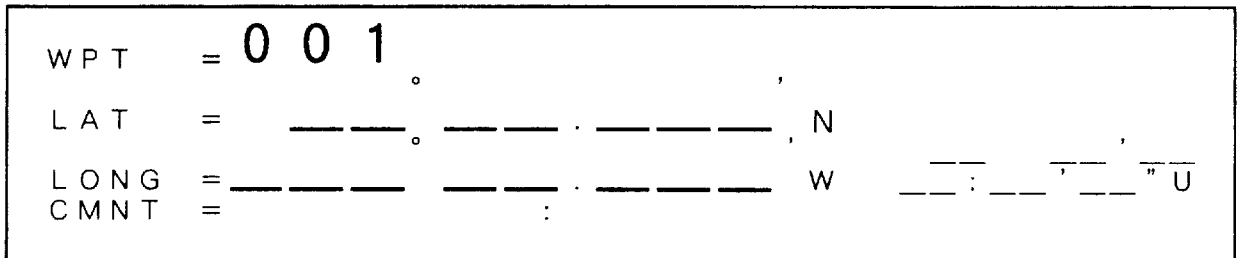

Figure 3-1 WPT display (no data)
- 1) Press the **WPT** key. The display shown in Figure 3-1 appears.